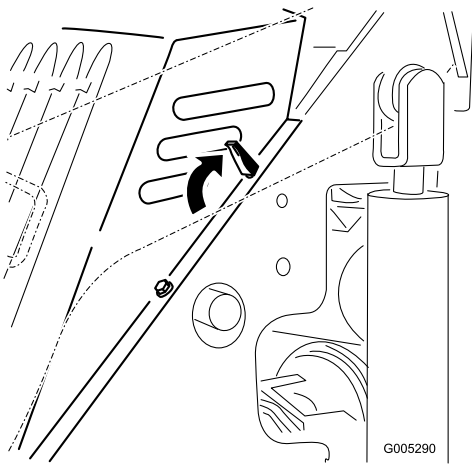

Figure 19
4. Release the 4 locking tabs (Figure 19).
1. Position the hood over the machine frame with the posts on the hood fitting into the holes in the frame (Figure 19).
2. Secure the hood by pushing the locking tabs forward and down (Figure 19).